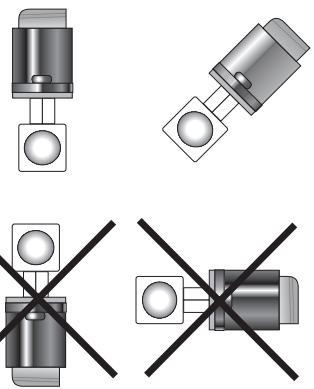

Fig. 4
4. INSTALLATION OF THE LINEAR ELECTRO-MECHANICAL ACTUATOR (Fig. 4)